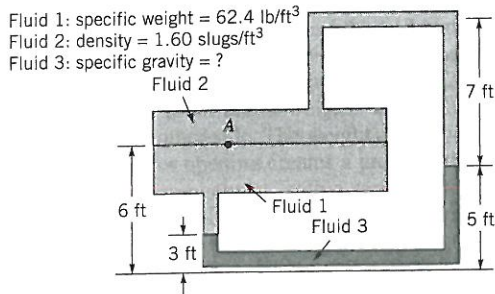

Figure P2.55
2.55 Three different liquids with properties as indicated fill the tank and manometer tubes as shown in Fig. P2.55. Determine the specific gravity of Fluid 3.